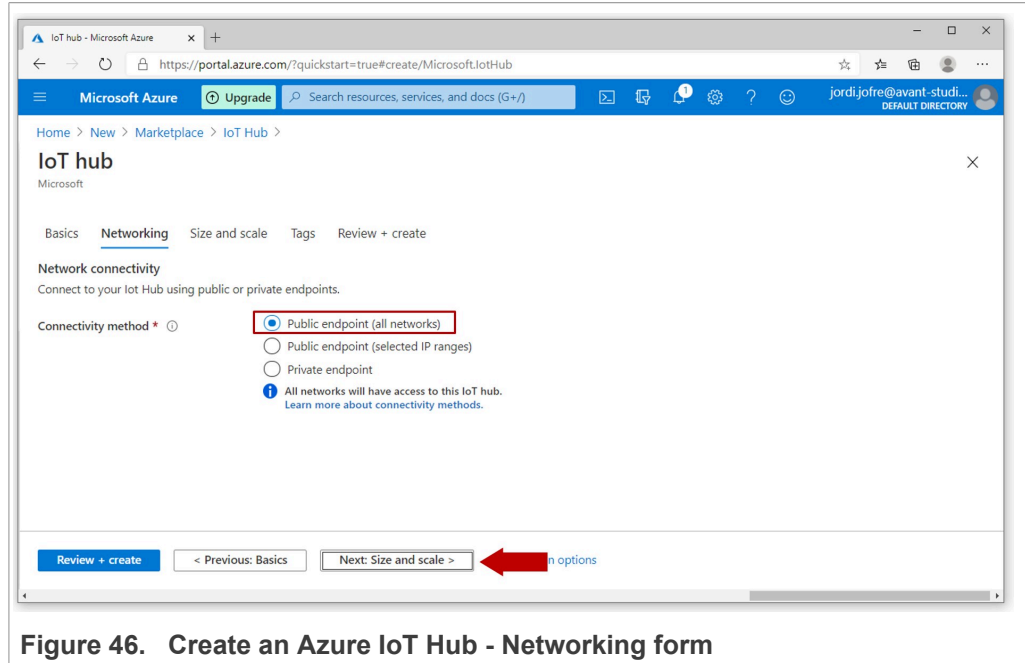

Figure 46. Create an Azure IoT Hub - Networking form
- 3. On the **Networking** tab, leave the Public endpoint (all networks) option selected and click Next:Size and scale, as shown in Figure 46: